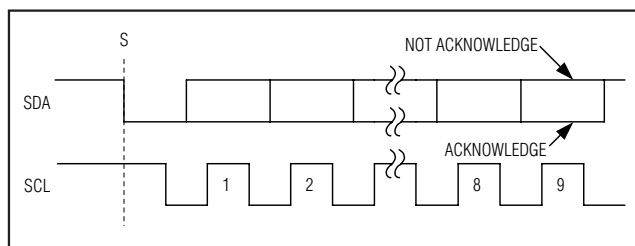

Figure 6. Acknowledge Bits
Data transfers are acknowledged with an acknowledge bit (A) or a not-acknowledge bit ($\overline{\text{A}}$). Both the master and the MAX11612–MAX11617 (slave) generate acknowledge bits. To generate an acknowledge, the receiving device must pull SDA low before the rising edge of the acknowledge-related clock pulse (ninth pulse) and keep it low during the high period of the clock pulse (Figure 6). To generate a not-acknowledge, the receiver allows SDA to be pulled high before the rising edge of the acknowledge-related clock pulse and leaves SDA high during the high period of the clock pulse. Monitoring the acknowledge bits allows for detection of unsuccessful data transfers. An unsuccessful data transfer happens if a receiving device is busy or if a system fault has occurred. In the event of an unsuccessful data transfer, the bus master should reattempt communication at a later time.